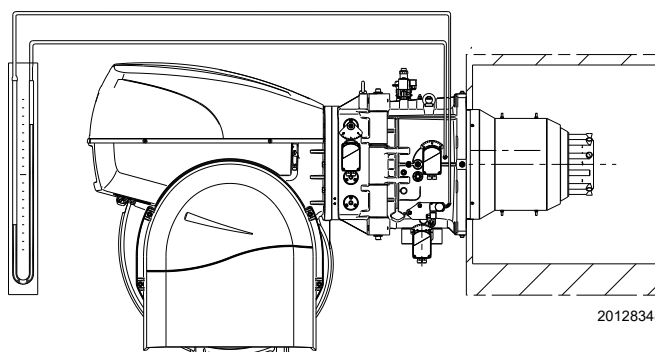

Fig. 29
- Fit a U-type pressure gauge or a differential pressure gauge (Fig. 29), with socket (+) on the gas pressure of the pipe coupling and (-) in the combustion chamber. The manometer readings are used to calculate MAX burner output.
The arrival of gas at the sleeve is indicated by the U-type manometer (Fig. 29).